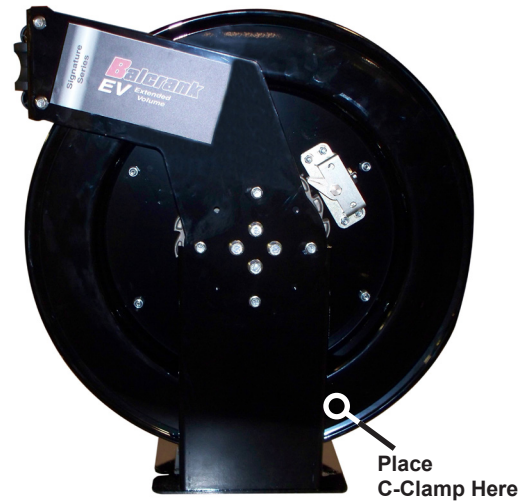

Figure 6
3. Secure spool from accidental rotation by placing a C-Clamp onto the spool. See figure 6 for proper placement of C-Clamp. This will keep the spool from rotating while removing and installing the new service hose.